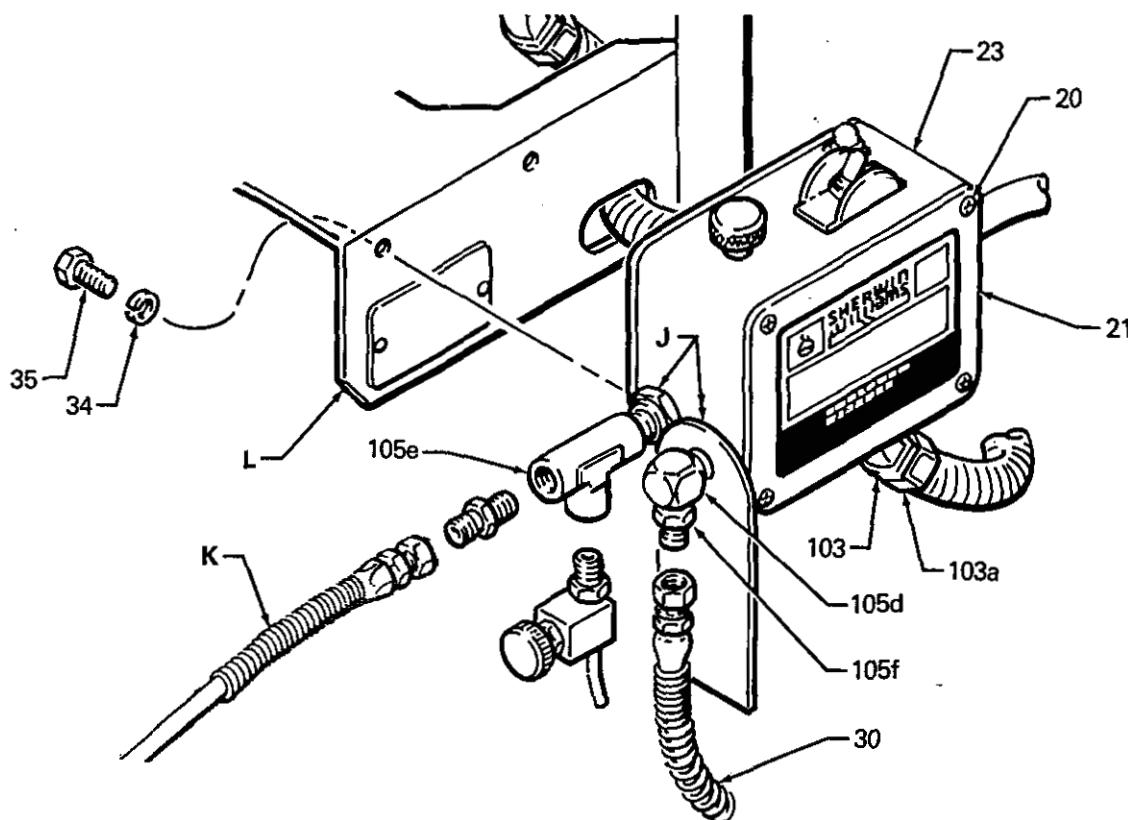

Fig 19
## REMOVING and REPLACING PRESSURE CONTROL (See Figure 19 and Parts Drawing on page 27)
Disconnect the fluid hoses (30 & K) from the pressure control. See Fig 19.
Remove the screws (35) and lockwashers (34). Remove the pressure control (23) from the frame (L). See Fig 19.